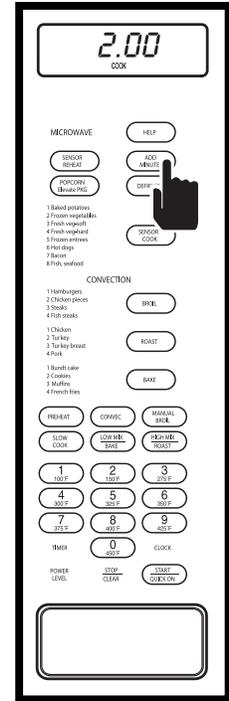

Figure 3-34.
2. If the microwave is already running in Time Cook Mode or Defrost Mode and the ADD MINUTE key is pressed, one minute will be added to the cooking time for every key stroke of the ADD MINUTE key (See Figure 3-34). At end of cooking time, "END" will flash on display and alarm will beep.